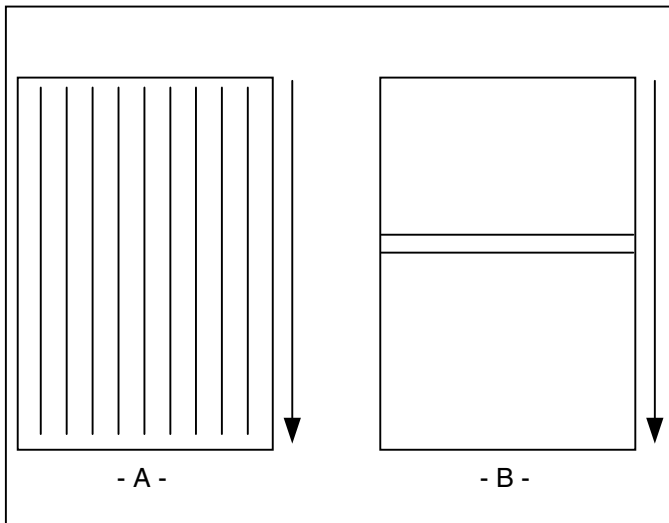

Fig. 47
3. Straight waves in output (Figure 47 A).
4. Indent waves in output after pull rollers (Figure 47 B).